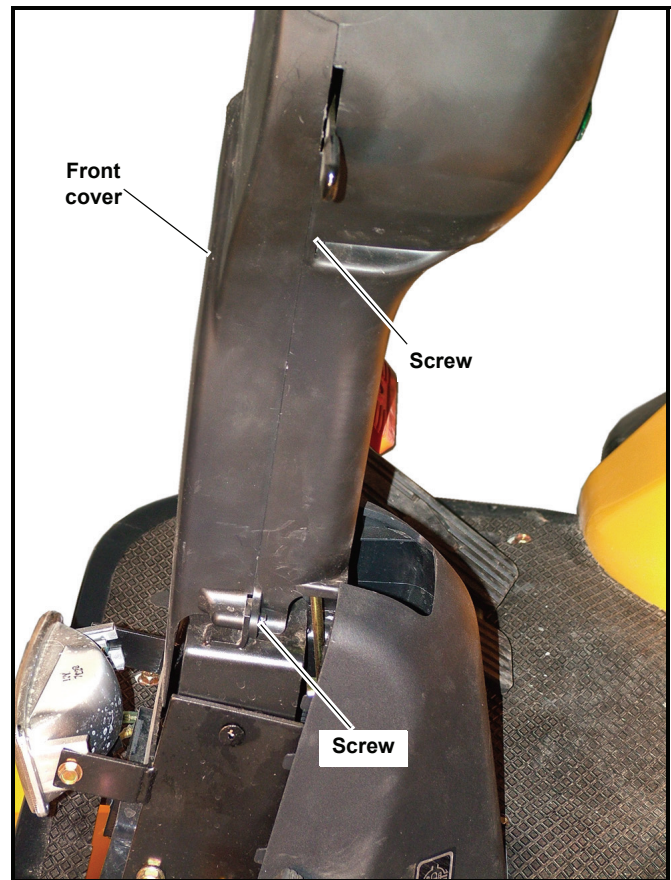

Figure 4-8
2. Remove the four screws that connect the front cover to the dashboard. Figure 4-8
3. Remove the front cover of the dashboard. Figure 4-8